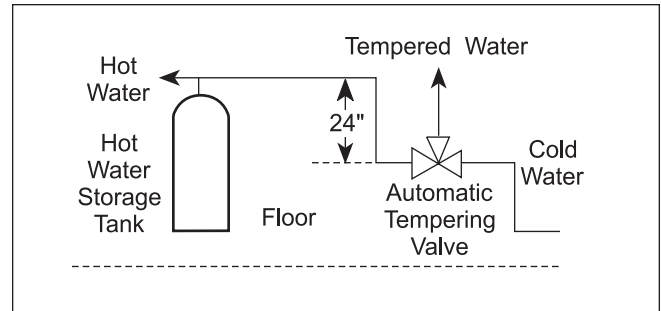

Figure 10. Tempering Valve Installation.
8. When installing a tempering valve, place at bottom of antithermosiphon loop at least 24" high to prevent excessive hot water from entering mixed water supply. Bring the cold water supply up from the floor to the valve (see Figure 10).